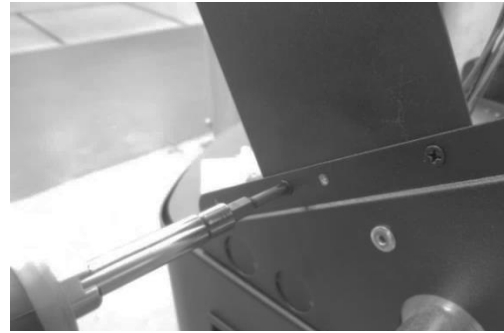

Figure 13 – Control Bracket
3. Remove four (4) screws from the control bracket. See Figure 13.
9. Reinstall the control bracket using the four (4) screws removed in Step 3. See Figure 13.